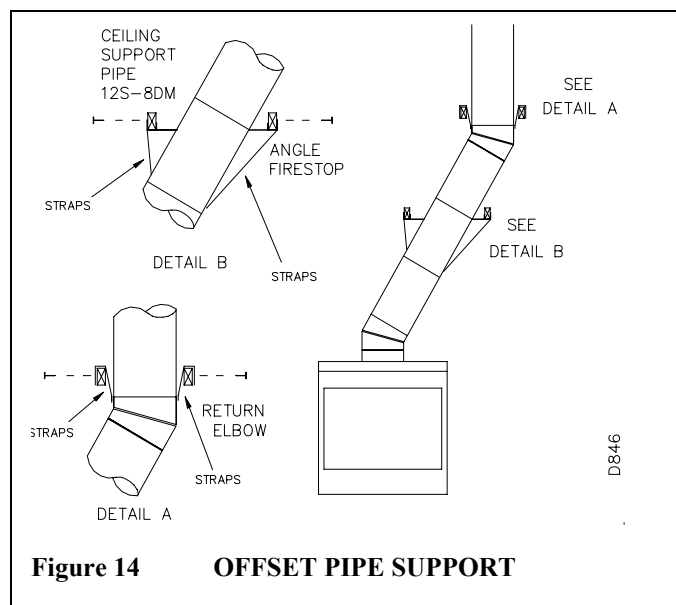

Figure 14
2. The chimney weight above the offset rest on return elbow. Straps must be securely fastened to rafters or joists (see figure 14, details A & B).
3. Maximum length of pipe between supports (return elbow or chimney support V12S-8DM) is 6' of angled run. Maximum of two (2) 6' angled run sections per chimney system.